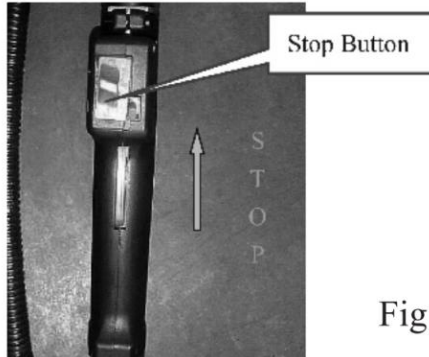

Fig 5
7.2 Pull Stop Button to the position of flameout.See the position of Stop Button in Fig.5.